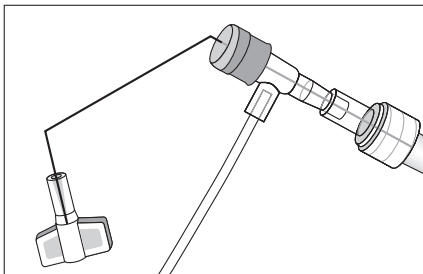

Figure 3
9. Kink proximal end of stiffening stylet at side-port connector to minimize risk of stiffening stylet exiting distal tip of catheter during insertion (refer to Figure 3).